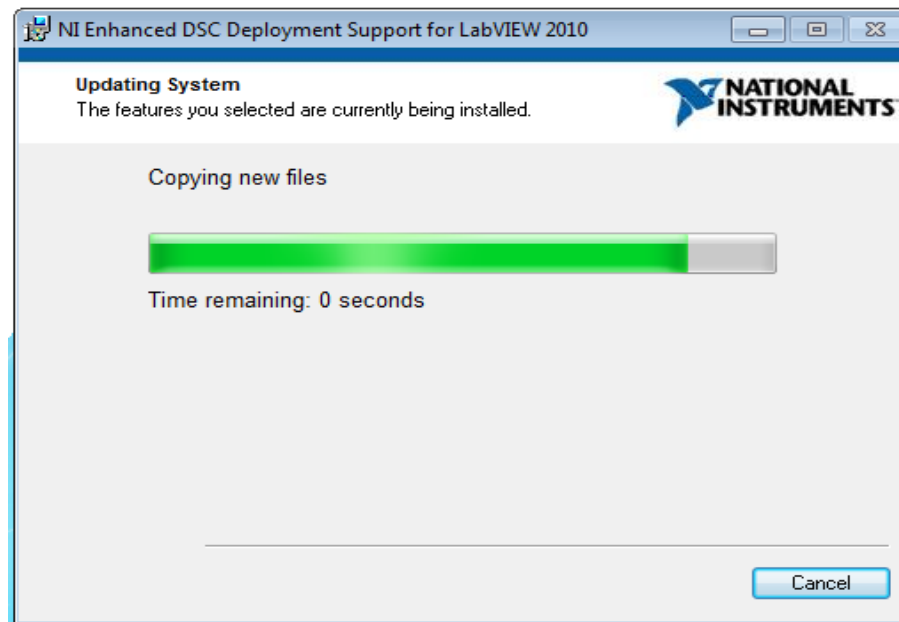

Figure 1-19 Installation in Progress
6. The installer will begin self-extraction and proceed with the installation as shown in Fig.1-19